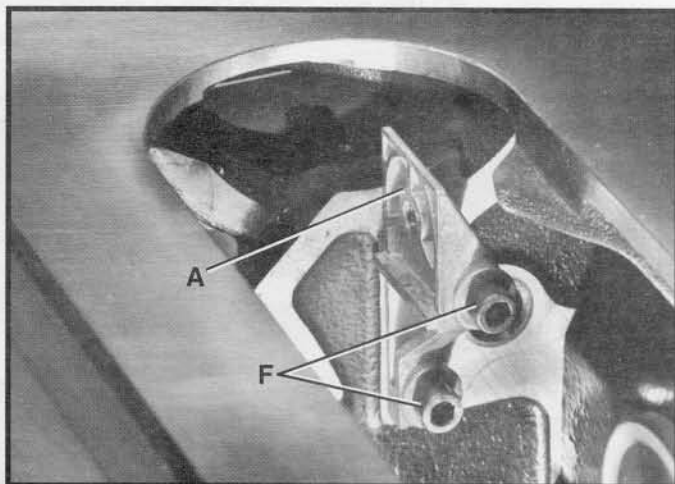

Fig. 19
5. If an adjustment is necessary, loosen two screws (F) Fig. 19, and adjust splitter bracket (A) until it is aligned with the blade flange; tighten two screws (F).